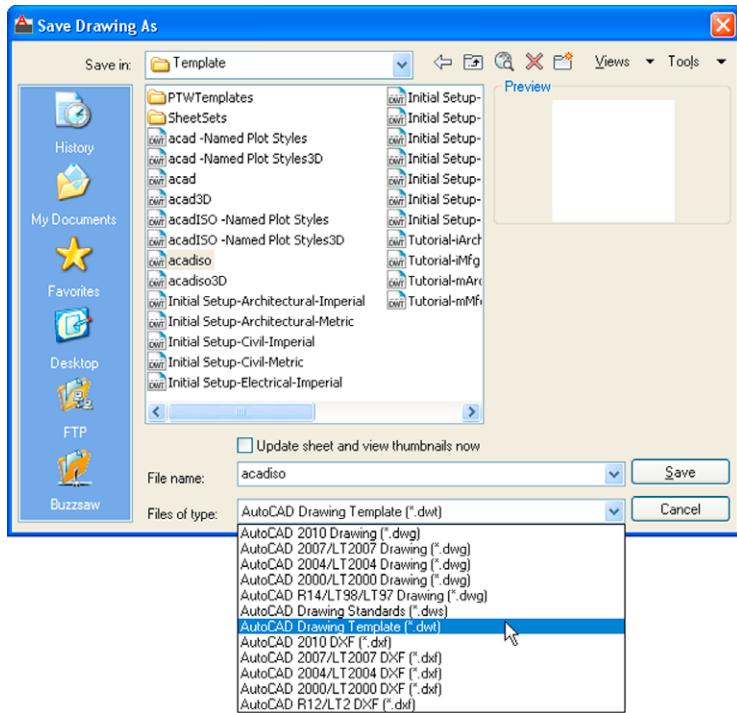

Fig. 4.21 Saving the template to the name **acadiso.dwt**
2. In the **Save Drawing As** dialog which comes on screen (Fig. 4.21), click the arrow to the right of the **Files of type** field and in the popup list associated with the field click on **AutoCAD Drawing Template (\*.dwt)**. The list of template files in the **AutoCAD 2011/Template** directory appears in the file list.